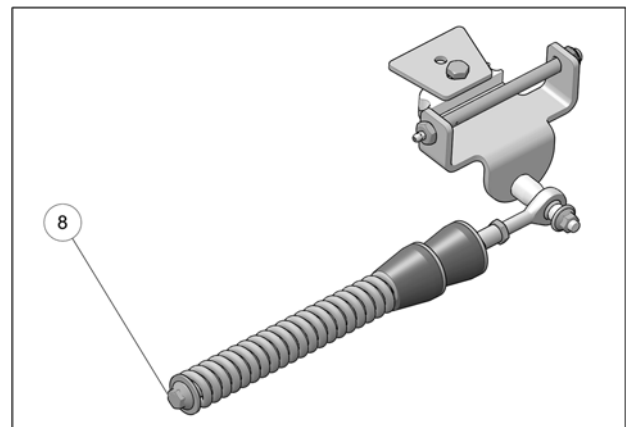

Fig. 12
11. Verify that spring assembly bolt (8) is tightened to the recommended torque specification: 75 N•m [55 lb•ft]. Refer to Fig. 12